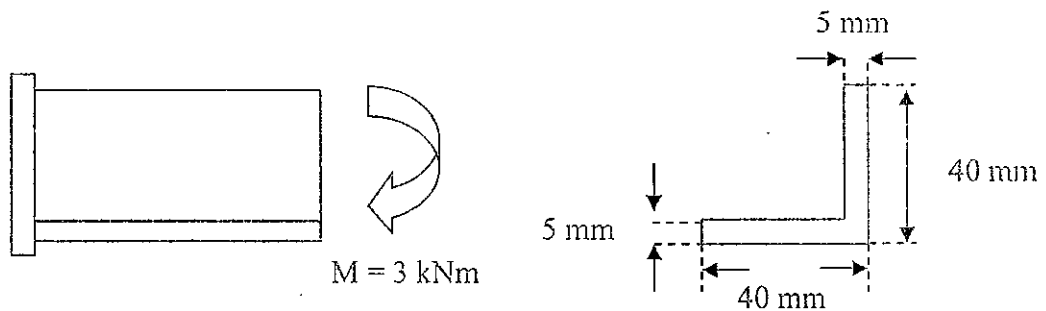

Figure 3(b)/Rajah 3(b)
- (b) A cantilever beam with L cross section is loaded with 3 kNm as moment at the edge as shown Figure 3(b) above. Given $E = 165 \text{ GN/m}^2$ and determine: